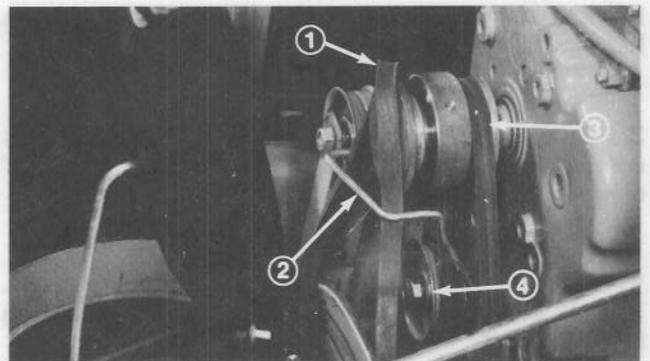

Figure 38
4. Remove the defective belt or belts; then install new belt(s). Make sure auger drive belt is installed to inside of the belt guide (Fig. 38). Traction drive belt must be installed against inside of the idler pulley (Fig. 38).